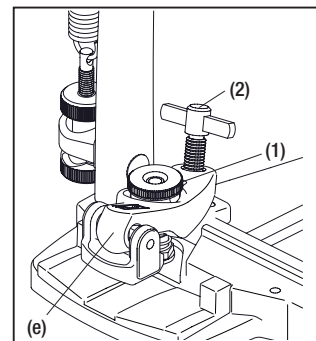

Fig.2
Adjust as necessary to match the thickness of the bass drum hoop. Then loosen the T-bolt (2) and set the pedal onto the drum hoop. Then retighten the T-bolt (2) (Fig.2).